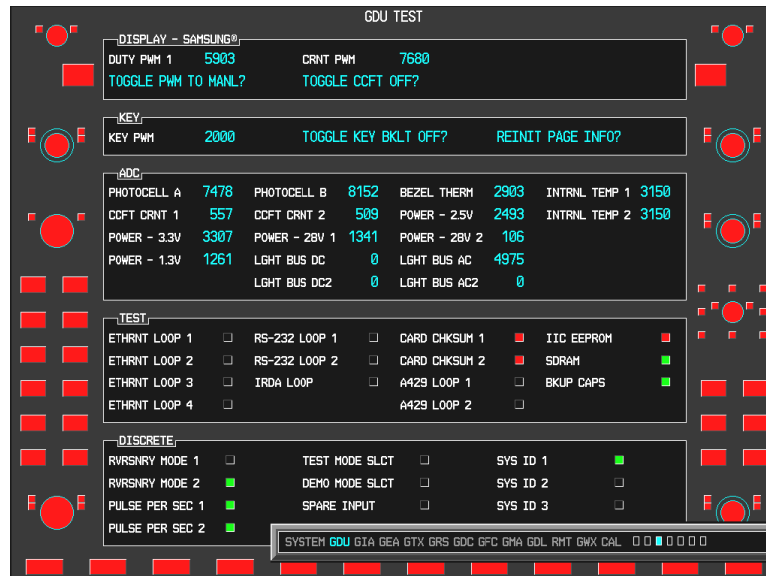

**Figure 4-16. BKUP CAPS Checkbox on GDU TEST Page**
20. Using the FMS knob go to the GDU TEST page (Figure 4-16) on the MFD and PFD (part of the GDU Page Group).